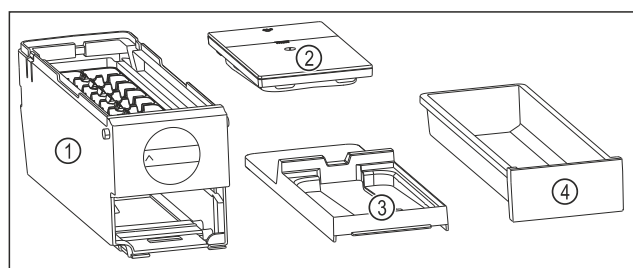

Fig. 80 Components of the EasyTwist-Ice
- ▷ EasyTwist-Ice is dismantled into four parts. (see Fig. 80)
- Only dismantle the EasyTwist-Ice into the components shown. (see Fig. 80)
- Clean the EasyTwist-Ice body Fig. 80 (1) as a whole.